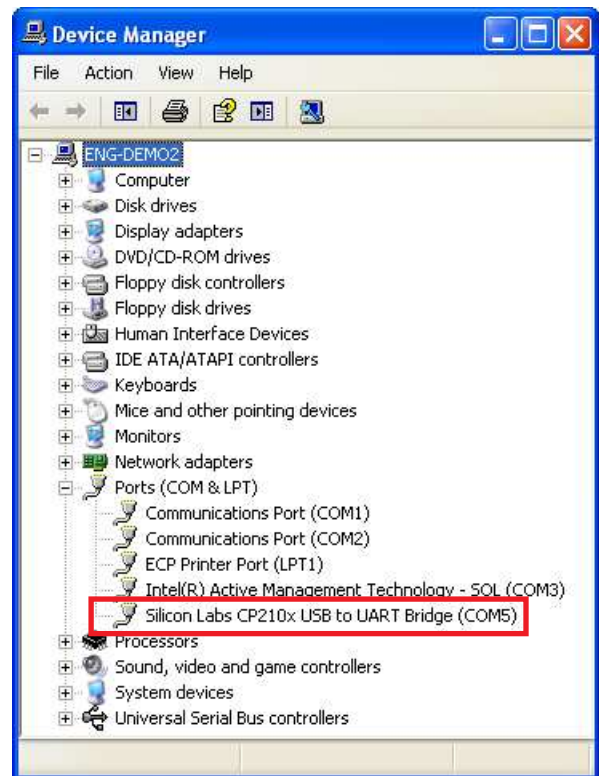

Figure 1: CP2101 COM Port Assignment
4. Scroll-down and expand the Ports (COM & LPT) section. One of the items in the list of available ports should read Silicon Labs CP210x USB to UART Bridge (COM#), where # is the assigned COM port. The screenshot shown in Figure 1 has been assigned to COM5.